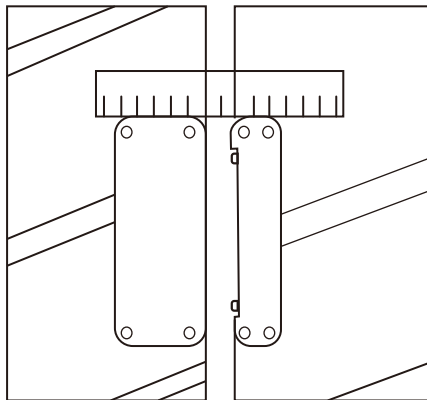
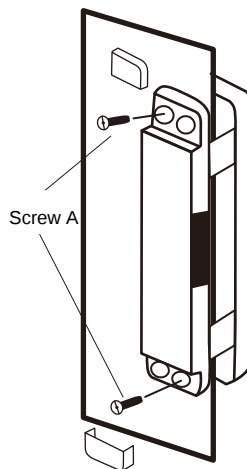

Fig.1
Fig.2
2. Remove the 4 side screws on the inner panel of the host (Fig. 1). Lift the flat cable on the connector to release the lock and unplug it (Fig. 2).